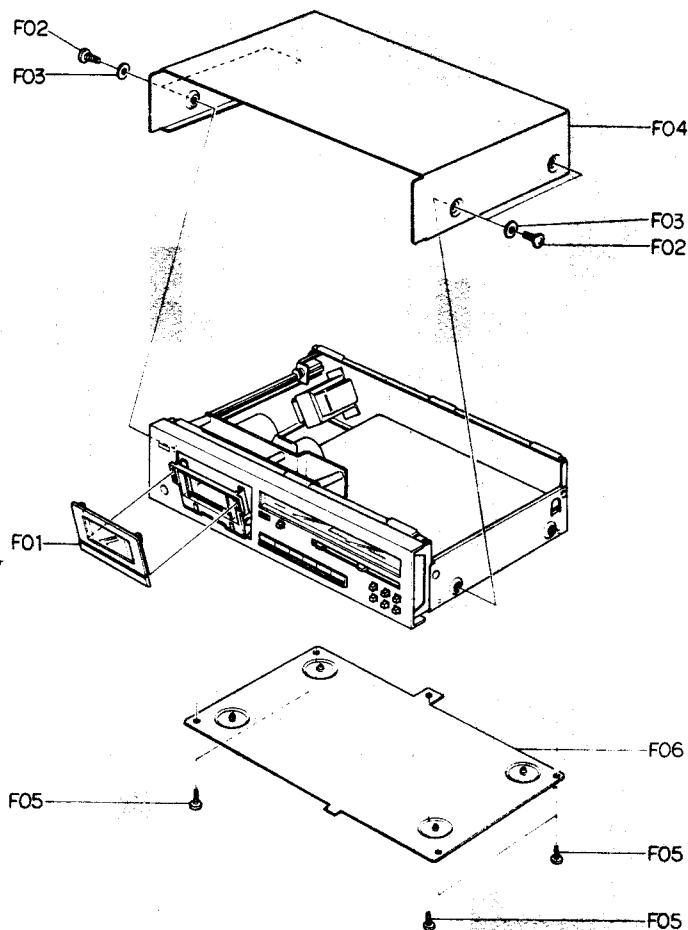

Fig. 3.1
Refer to Fig. 3.1.
- (1) Refer to Fig. 3.1. Remove Top Cover Ass'y and Bottom Cover Ass'y referring to items 3.2 and 3.3.
- (2) Pull out F01 (Volume Knobs).
- (3) Remove F02 (Power Switch Joint Bar) by releasing the self-interlocking pin of the Power Switch Joint Bar from Power Switch, and turn F02 (Power Switch Joint Bar) by 90° either clockwise or counterclockwise, then disassemble F02 (Power Switch Joint Bar) from the Power Switch Knob Ass'y.
- (4) Remove F03, then disassemble F04 (Front Panel Ass'y).
(1) Refer to Fig. 3.1. Remove Top Cover Ass'y and Bottom Cover Ass'y referring to items 3.2 and 3.3.
(2) Remove F01, F02 and F03, then disassemble F04 (Rear Panel Ass'y).
(3) Remove F05 and F06, then disassemble F07 (Power Transformer).
(4) Remove Power Switch Joint Bar by releasing the self-interlocking pin of the Power Switch Joint Bar from Power Switch and F08, then disassemble F09 (Power Switch Holder Ass'y).
(5) Remove F10, then disassemble F11 (Power Switch).